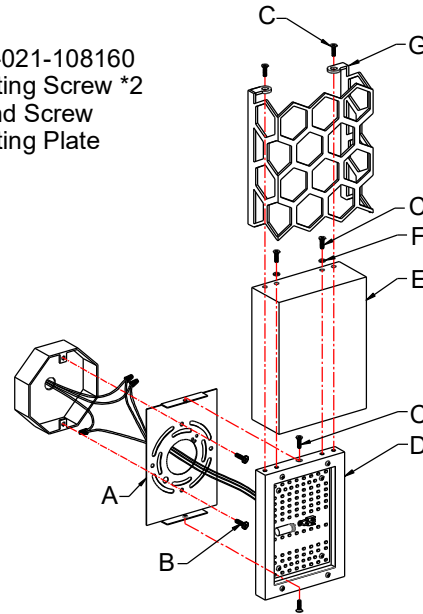

Fig. 2
CONNECTING THE WIRES (Fig. 2)
5. Connect the electrical wires as shown in Fig. 2, making sure that all wire connectors are secured. If your junction box has a ground wire (green or bare copper), connect the fixture's ground wire to it. Otherwise, connect the fixture's ground wire directly to the mounting plate (A) using the green screw provided.